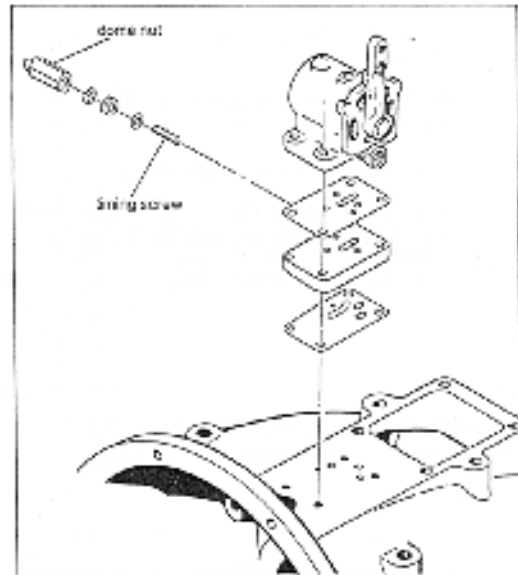

Fig. 31. Installation of Selector Valve
7. Check for correct assembly by moving lever back and forth. Selector valve is now ready to be installed on main housing. See fig. 31.
4. Remove selector valve and base plate and be very careful to keep gaskets in proper configuration for future replacement. Refer to fig. 31.